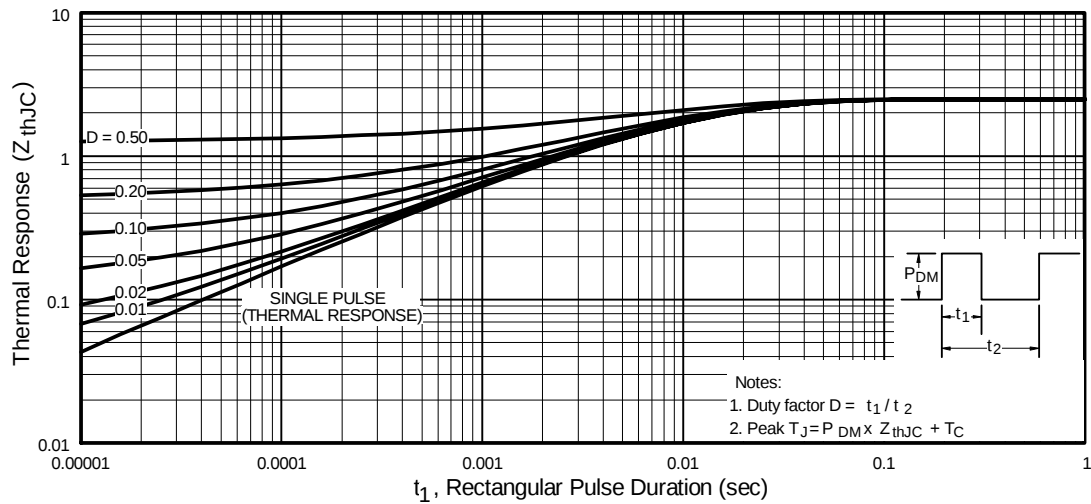

Fig 11. Maximum Effective Transient Thermal Impedance, Junction-to-Case
① Repetitive rating; pulse width limited by max. junction temperature. (See fig. 11)
② Starting $T_J = 25^\circ\text{C}$, $L = 27mH$